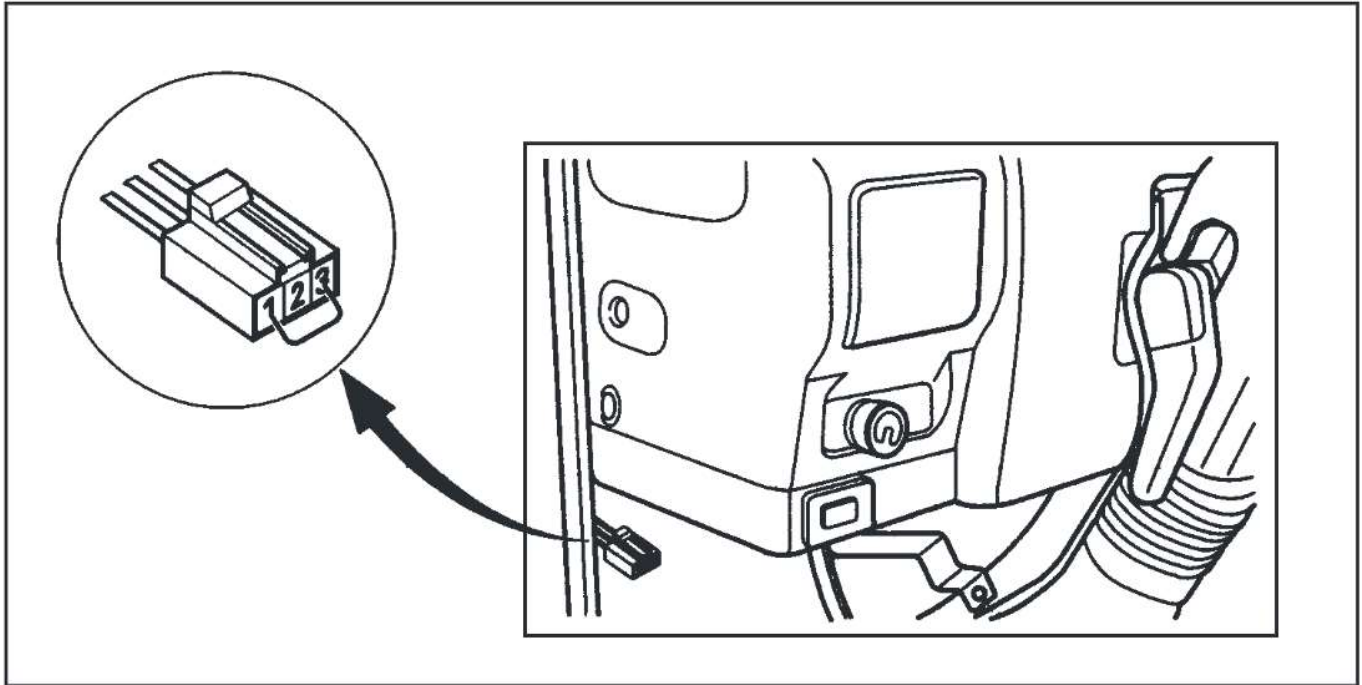

Figure 22
2. Jump diagnostic connector terminals 1 and 3 as seen in Figure 22.